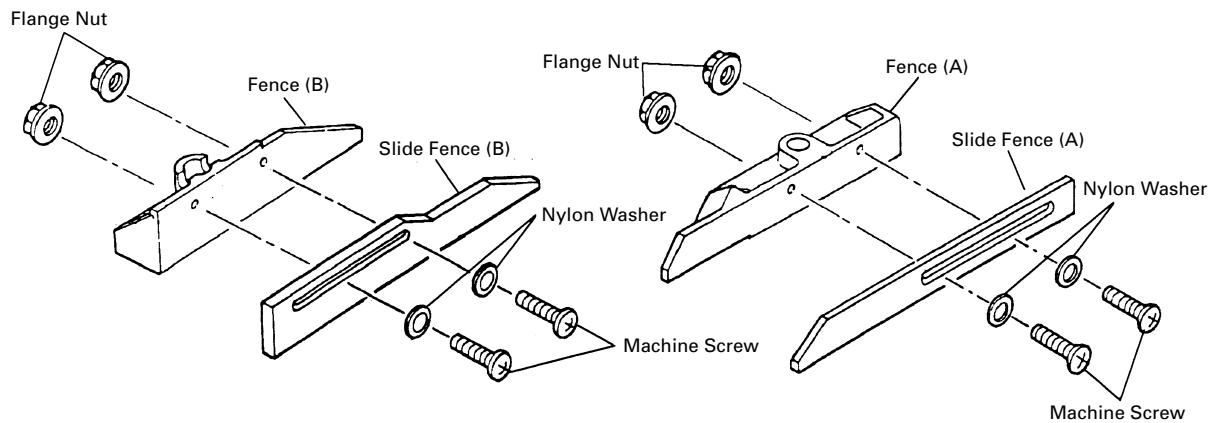

Fig. 19
- (1) Set slide fence (A) and slide fence (B) on fence (A) and fence (B) of the base.
- (2) To attach use the four machine screws with nylon washers and flange nuts as shown in Fig. 19.
- (3) Adjust slide fence (A) and slide fence (B) to stabilize the workpiece. Adjustable range of slide fence (A) and slide fence (B) is from 0 to 3-3/4" (0 to 95mm).
- (4) Confirm the position of slide fence (A) and slide fence (B) on fence (A) and fence (B) with four machine screws tightly so slide fence (A) and slide fence (B) do not move (see Fig. 19).
- * Before operation, ensure that the saw blade does not contact slide fence (A) and slide fence (B). In case the saw blade contacts slide fence (A) and slide fence (B), adjust the position of slide fence (A) and slide fence (B) again.